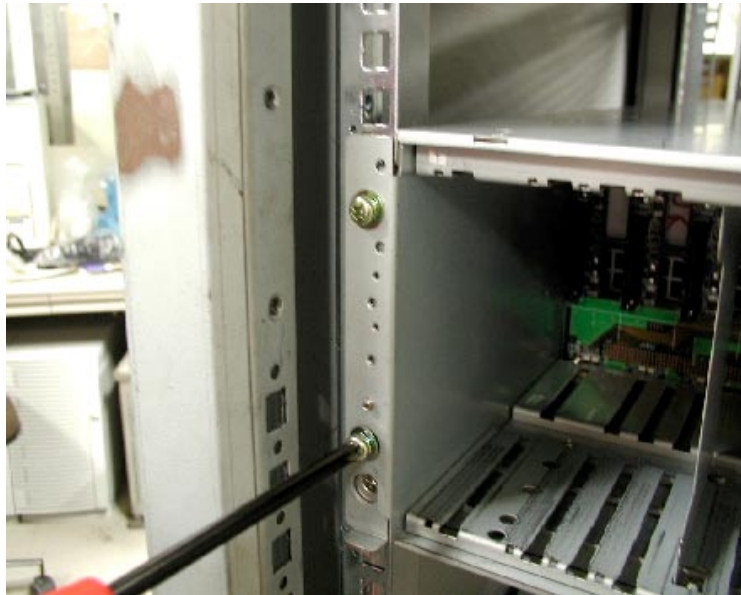

Figure 2-8. Securing the DAU to the System rack
- Secure the DAU to the system rack with two M5 screws. See Figure 2-8.